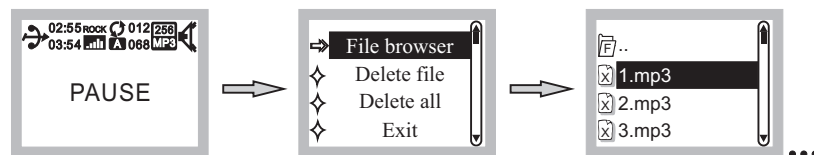

Fig. 25
(1) File Brower: Press **▶** during playback and screen displays PAUSE. Press & hold **▶** to enter the directory option. Press **◀** or **▶** to sequentially select the directory option, Fig. 25.